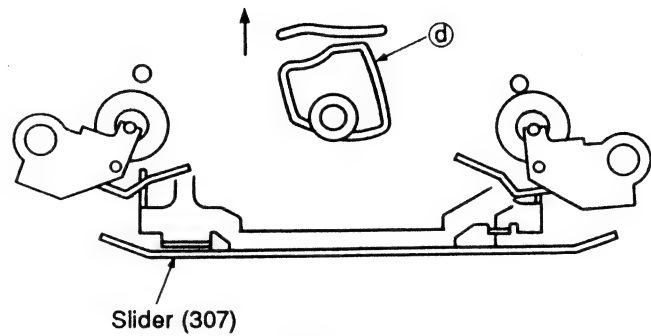

Fig. 10
15. In the FWD PLAY/REC position, gear assembly cam Ⓓ lifts the head slider and slider (307) above it. The pinch roller contacts the capstan, and forward playback starts. (Fig. 10)